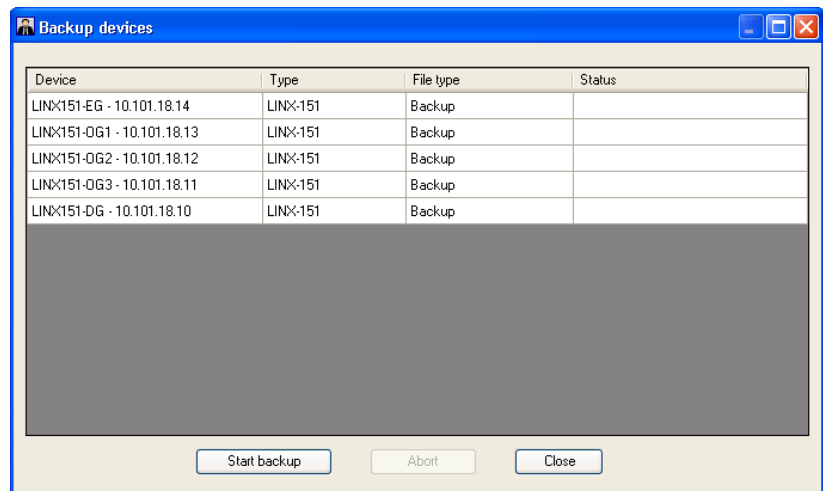

Figure 217: Backup Devices Dialog
4. The **Backup devices** dialog opens (see Figure 217). To start the process, press the **Start backup** button. During the backup the **Status** column is updated with current information.